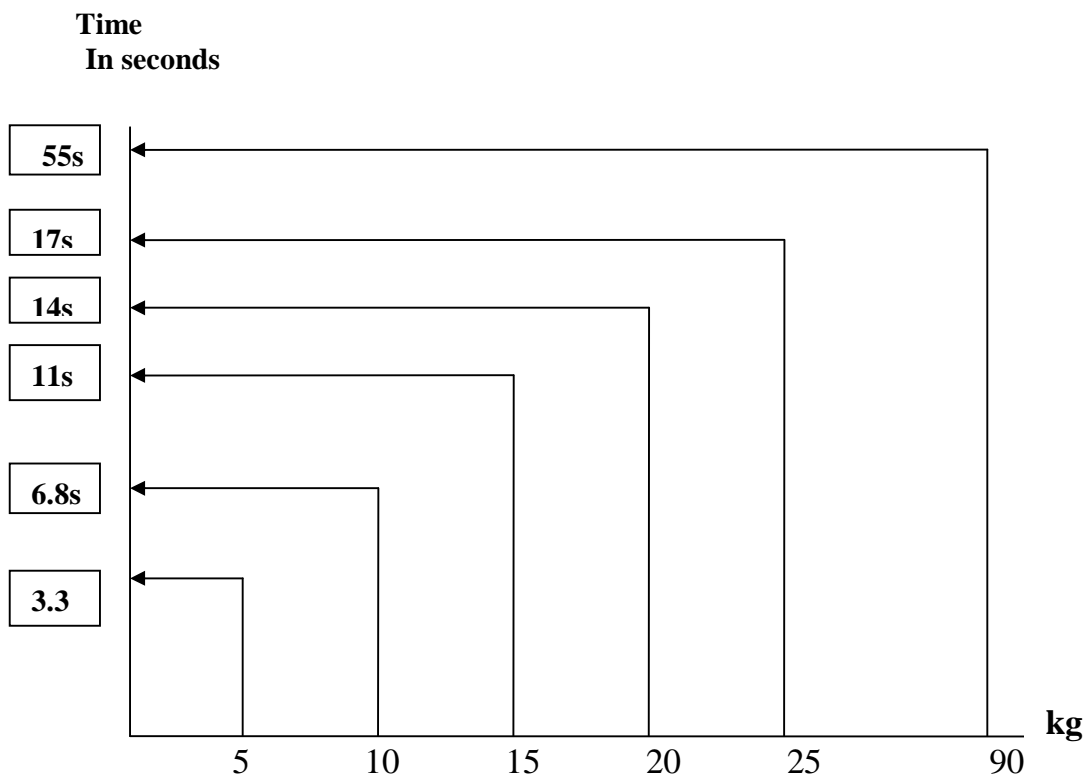

Figure 7: Timing diagram for various reading
- The system provides high packing by weight speeds as shown on Figure 7..